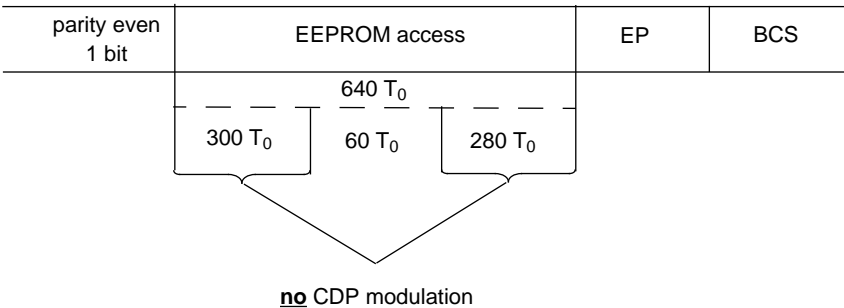

Fig.20 EEPROM access timing during successful PROGRAM_EEPROM sequence.
- Note 3** While in PROGRAM_MODE a spurious carrier modulation may occur during the EEPROM access interval. This modulation shall not be regarded as CDP modulation thus is not an indication that the PROGRAM_MODE failed. The spurious modulation may occurs during the first 300 T_0 and last 280 T_0 of the EEPROM access interval (see Fig.20).